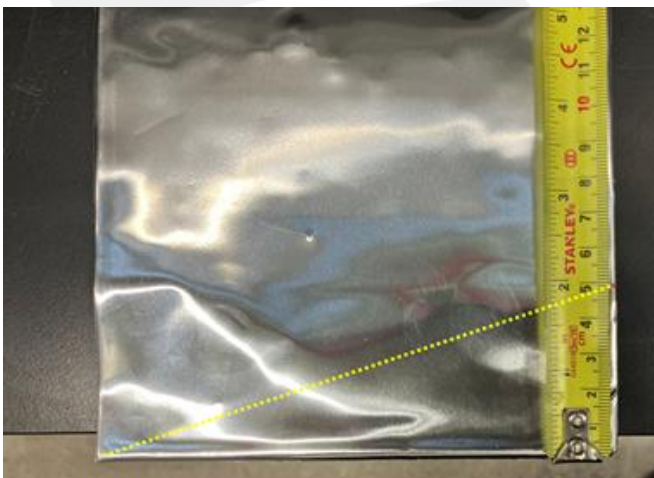

Figure 3
1. Cut the lower part of the butyl foil patch for the HEPA inlet duct: measure 5 cm (2 in) from the corner, draw a line from the measured point to the opposite corner, and then cut out and discard the triangle (Figure 3).